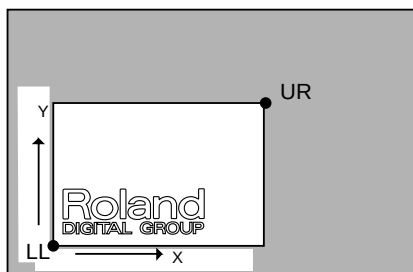
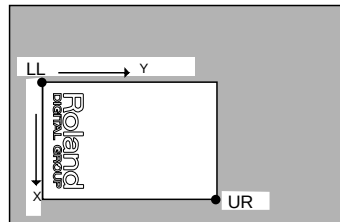

Figure 2-12
Figure 2-17
- When LL and UR have been set respectively as the lower-left and the upper-right, the X axis is horizontal (left-right), and the Y axis is vertical. For normal horizontally written text, the characters are arranged from left to right, as shown in figure 2-12.
This is just a comment about orientation settings and terminology. When LL and UR have been set as upper-left and the lower-right respectively, the X axis switches to a vertical ( up-down ) orientation and the Y axis switches to a horizontal ( left-right ) orientation. Under such conditions, previously set text is rotated 90 ° clock-wise from the normal orientation ( figure 2-12 ) and is cut as shown in figure 2-17.
4. First, peel off the circular area (  ), making sure that it peels off without peeling off the square area (  ). figure 2-17